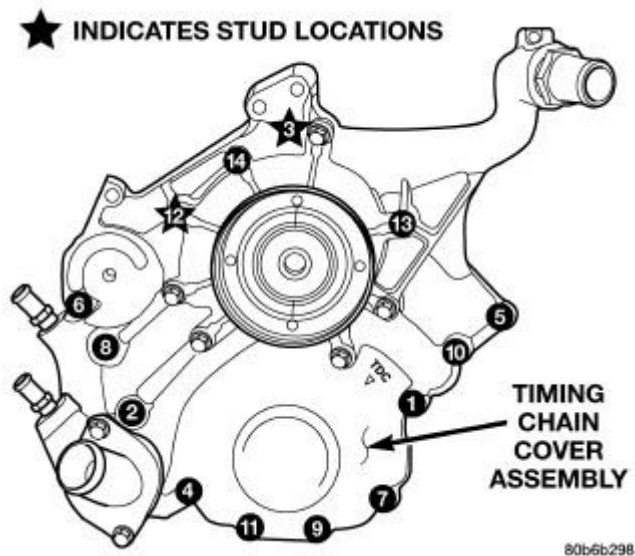

Fig. 176: Timing Chain Cover Removal/Tightening Sequence
4. Install cover. Tighten flange head fasteners in sequence shown in illustration to 58 N.m (43 ft.lbs.). Refer to **Fig. 176**.